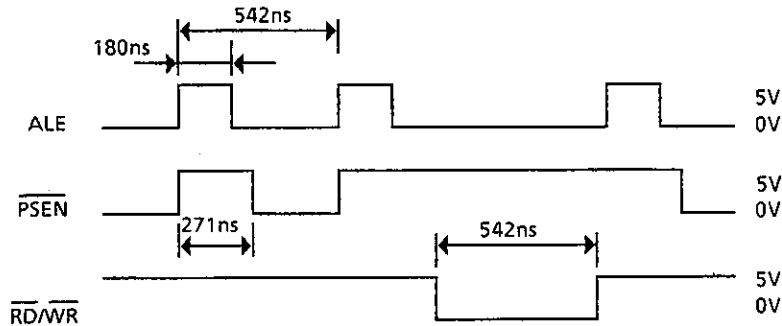

Figure E-3-3
• Yes Are ALE,  $\overline{\text{PSEN}}$ ,  $\overline{\text{RD}}$ ,  $\overline{\text{WR}}$ , signals as specified in Figure E-3-3?